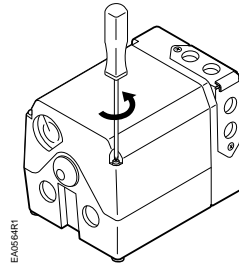

Figure 2.
1. Loosen the two screws on the actuator cover corners. See *Figure 2*.